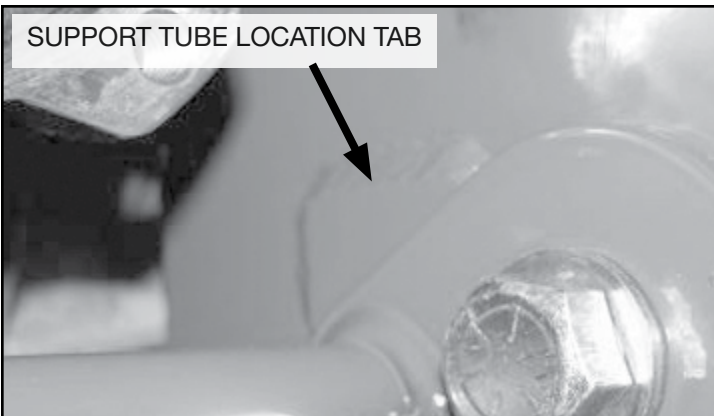

FIGURE 29 - STEP 25
25. Locate FT20284 Crossmember Support Tubes. Install the lower control arms into the new crossmembers using the 5/8" x 5" hardware in the front pocket. Position the control arms into the crossmember and insert only the front 5/8" bolt just so that it is through the arm. Position the Support tube between the crossmembers and rotate them up to the locating tabs on the crossmember. Install 5/8" x 5 3/4" hardware in the rear pocket and the front bolt with hardware. Leave loose. **SEE FIGURE 29**